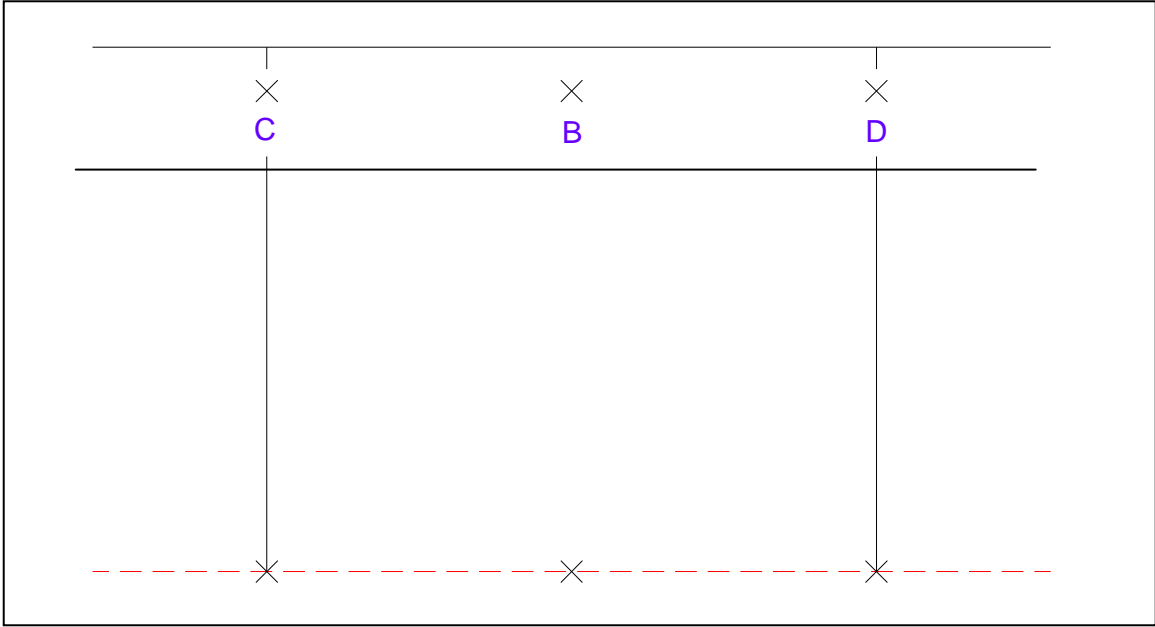

Figure 15 Chalking the Edge of the Carriage at the First Floor (Front View)
- d. **Figure 15** - Using a chalk line, snap a line between C and D.